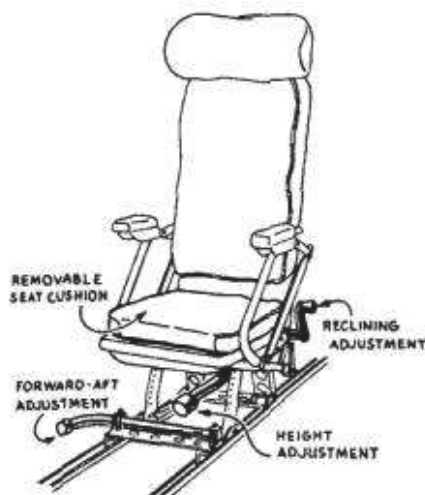

Figure 56 — Adjustable Seat
- f. Adjust seat and fasten safety belt (see figure 56.)